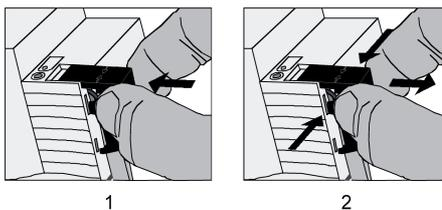

Figure 6: Installing / removing the protective cap for the bus connection
- To install the cap: slide the cap over the bus terminal until you feel it engage (figure 6).
- To remove the cap: Remove the cap by pressing the sides slightly and by pulling it out to the front (figure 6).